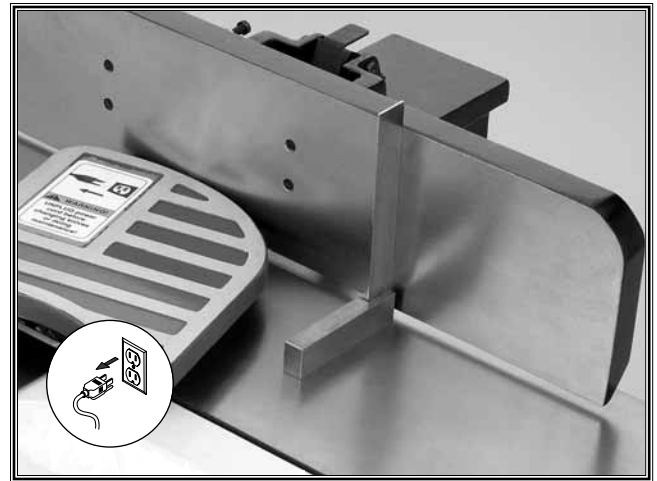

Figure 21. Setting the fence to 90°.
1. Using a machinist's square, position the fence 90° relative to the table surface (Figure 21).